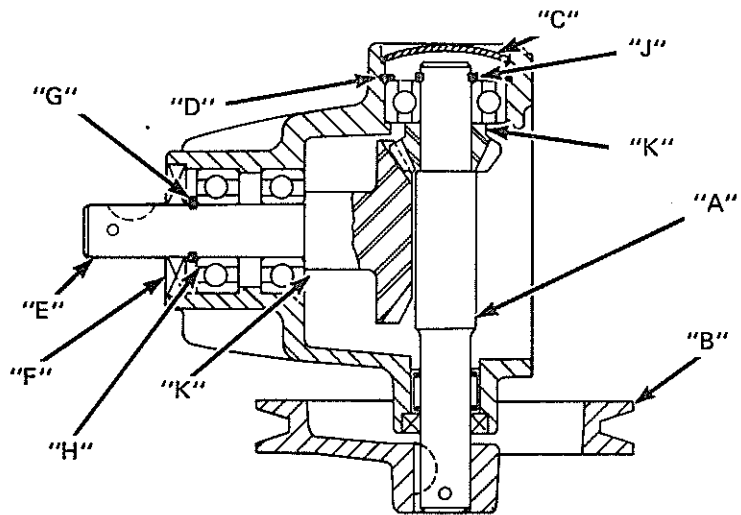

Fig. 8-7
5. Remove output shaft (A, Fig. 8-7), as follows:
- a. Remove drive sheave (B) and woodruff key. De-burr and polish shaft to aid in re-assembly.
- b. Remove plug (C) and outside snap ring (D).
- c. Slide shaft (A), gear and bearing out of gear case.
6. Remove input shaft (E) by removing oil seal (F) and snap ring (G). Push shaft out rear of gear case.